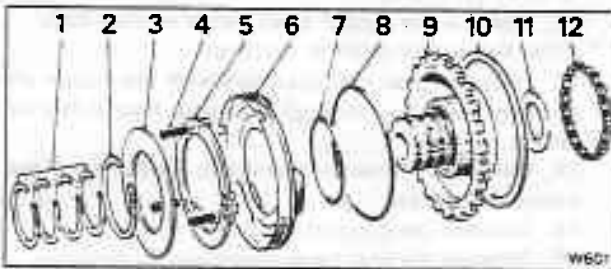

Fig. T19-4 Centre support assembly
1. Remove and discard the four oil seal rings from the centre support (see fig. T19-4).